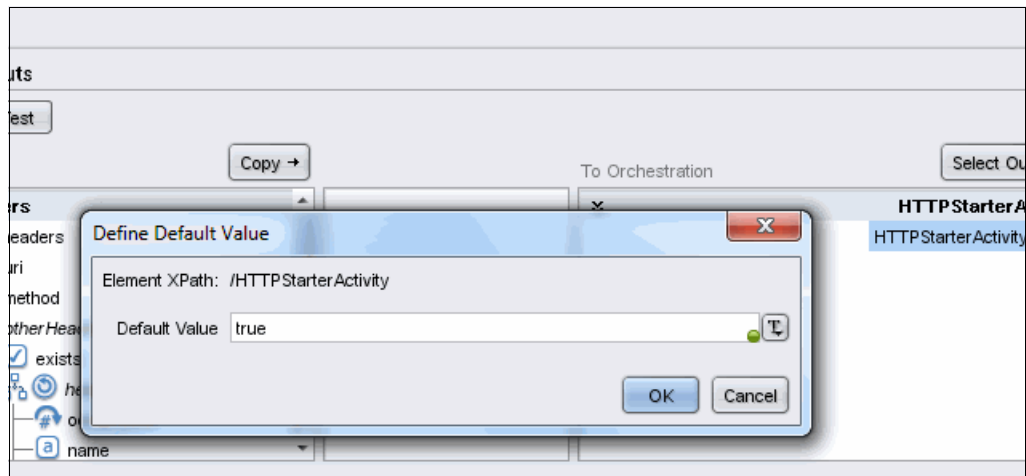

Figure 11-29 Setting a variable value in Map Outputs for HTTP Receive Request activity
- c. Set its default value to `True`, as shown in Figure 11-29. Click **OK**.